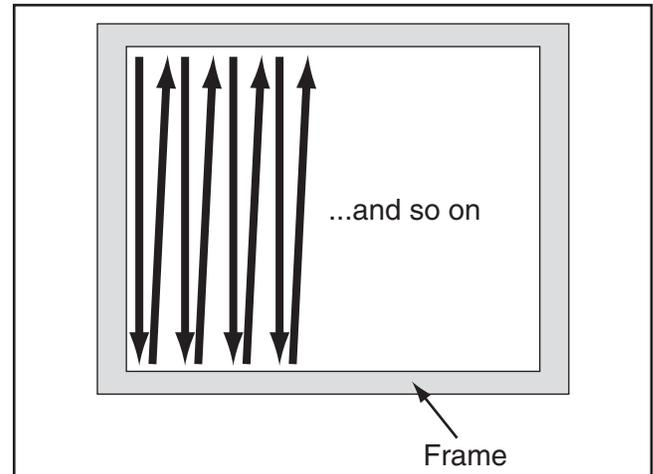

Figure 11. Example of basic back-and-forth tracking pattern.
6. Move the workpiece back and forth through the wheels in an overlapping pattern (see example in **Figure 11**).